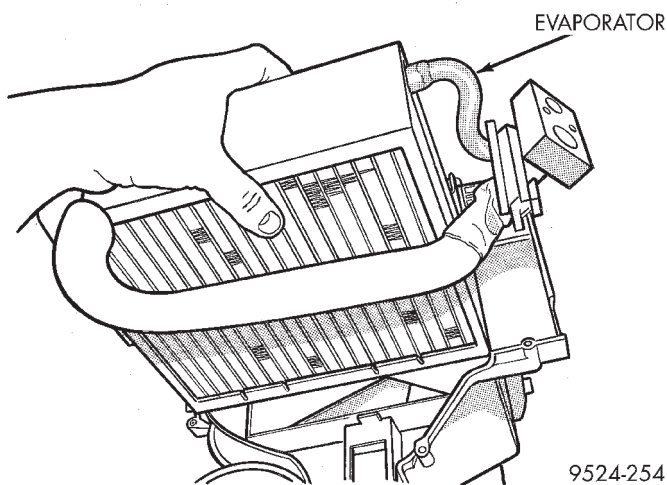

Fig. 40 Remove Evaporator From Housing
- (9) Lift evaporator out of lower housing (Fig. 40).
- (10) Remove styrofoam seal around evaporator.
- (11) Transfer evaporator sensor. Place the evaporator sensor in the same location as on the previous evaporator.